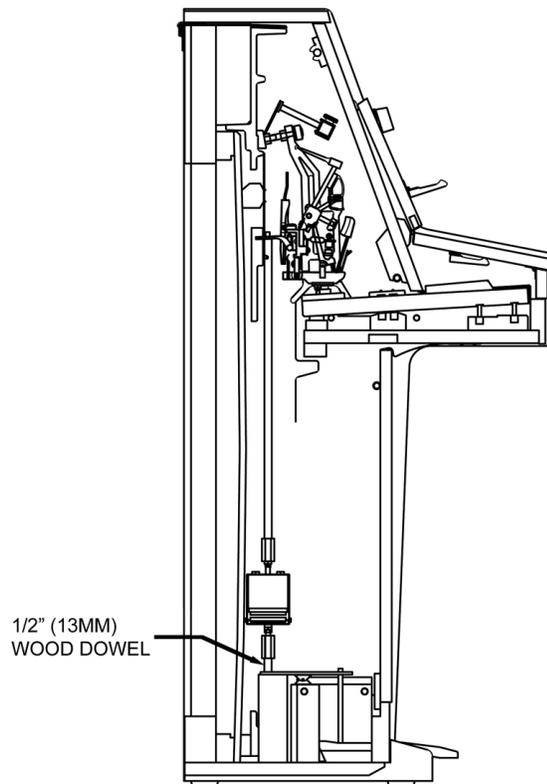

Figure 18
- I.** Place the pedal solenoid assembly on the piano. Start with placing the long wood dowel pin into the sustain lever (piano action) and then the pedal solenoid on the sustain horizontal bar. See Figure 18.